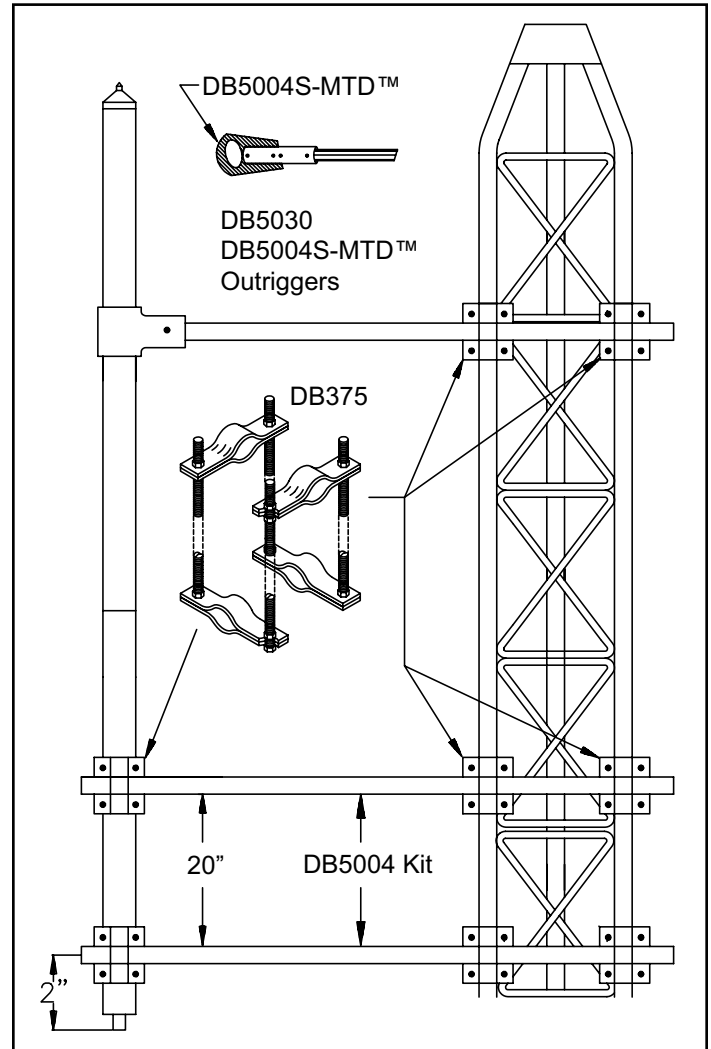

Figure 4. Example of Antenna Showing DB5030 Series Fiberglass Outrigger Assembly and DB5004 Adjustable Side Mount Kit.
- DB5004 (Figure 4) is an adjustable side mount kit that mounts across the face of the tower. This kit includes two 10-foot sections of pipe and six clamp assemblies.
See Figure 4 for example of completed assembly.